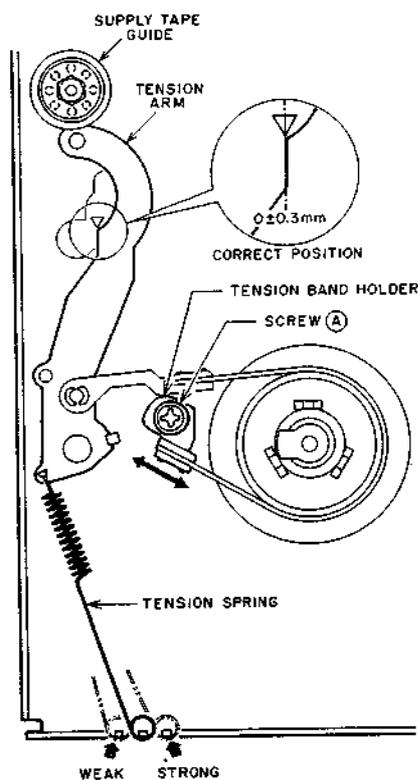

Fig. 5-1
- 3) In the play mode, loosen the screw (A) and set the tension arm position to the correct position as shown in Fig. 5-1 by the tension band holder position, then tighten the screw (A).
- 3) En mode de lecture, desserrer la vis (A) (screw (A)), mettre le bras de tension à la position correcte au moyen du porte-courroie tendeur, de la manière illustrée à la Fig. 5-1, et resserrer la vis (A) (screw (A)).